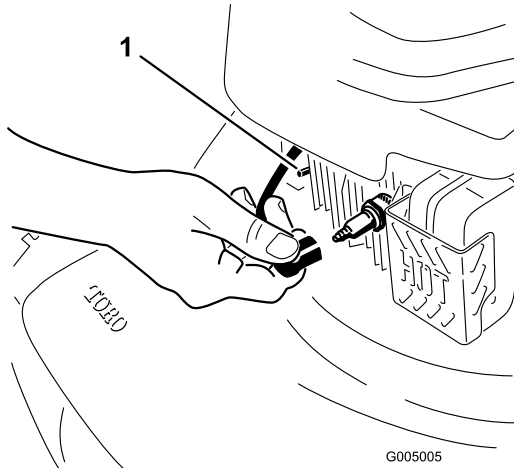

Figure 19
2. Disconnect the spark plug wire from the spark plug and hook it onto the retaining post (Figure 19) before performing any maintenance procedure.